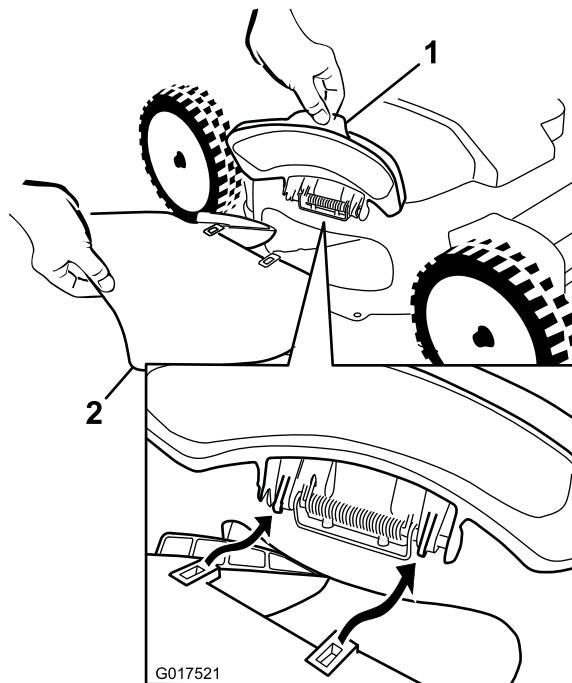
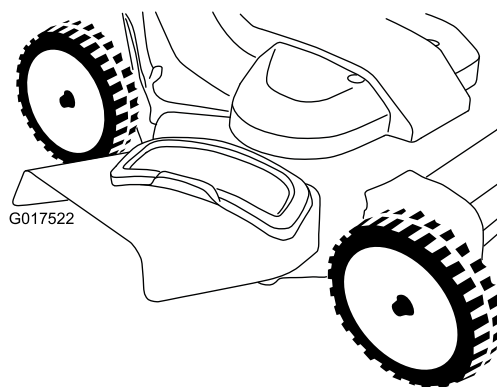

Figure 26
Figure 27
1. Lift open the side-discharge door (Figure 26).
2. Install the side-discharge chute as shown in Figure 26 and Figure 27, and close the door onto the chute.